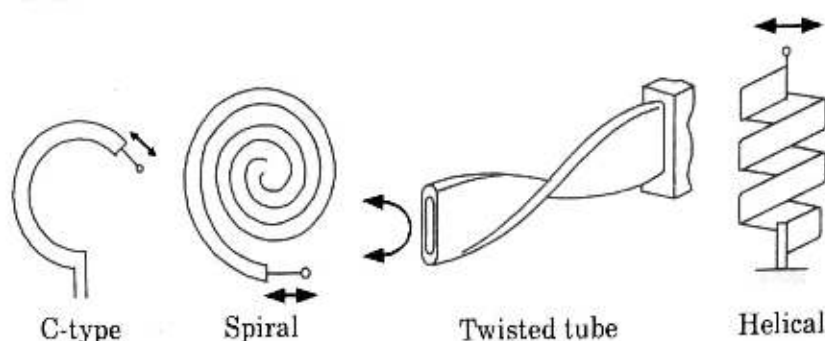

Fig. 5.19.1. Pressure sensitive primary devices.
2. The bourdon tubes are made out of an elliptically flattened tube bent in such a way as to produce the shapes shown in Fig. 5.19.1.